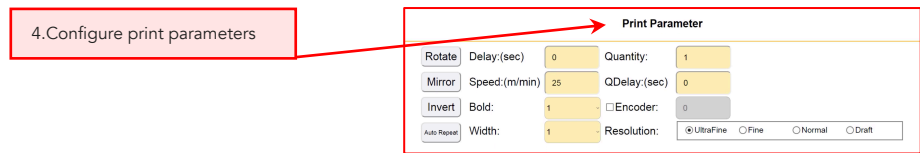

Figure 13. Print Parameter
- Set print parameters as recommended in Figure 13